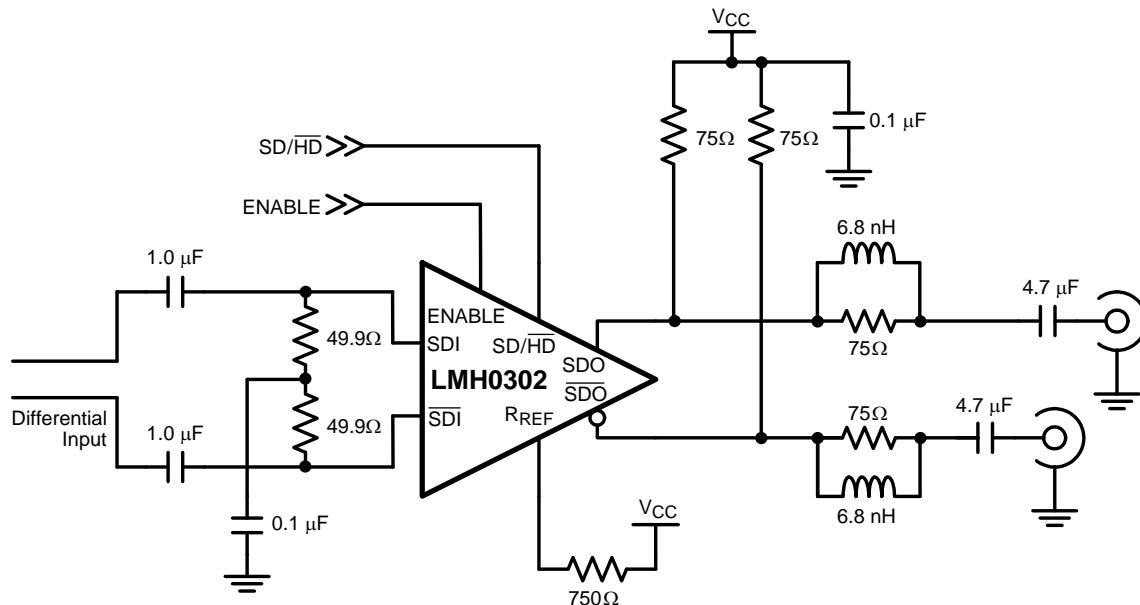

Figure 4. LMH0302 Cable Driver
SDI cable drivers like Texas Instruments LMH0302 and LMH0307 (dual output) have their outputs terminated directly to V_{CC} , as shown in Figure 4. Given that, any power supply noise or ripple on V_{CC} is transmitted directly on the outgoing video signal and will show up at the input of the receiving product as additive jitter. Like the cable EQ the cable driver's V_{CC} ripple limitation is data rate dependent. Slower data rates have a larger unit interval (UI) from a time based perspective, therefore, with a larger UI, more allowable jitter and correspondingly more V_{CC} ripple are acceptable.